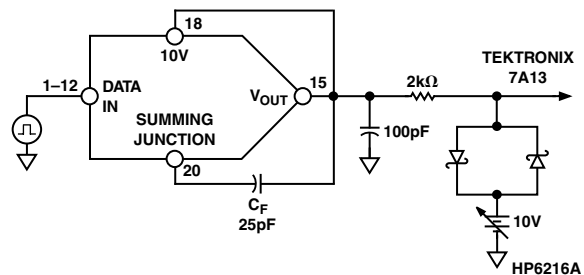

Figure 3a. Voltage Model Settling Time Circuit
- ⁵C_F = 0, see Figure 3a.
Three settling times are specified to 0.01% of full scale range (FSR); two for maximum full scale range changes of 20 V, 10 V and one for a 1 LSB change. The 1 LSB change is measured at the major carry (0 1 1 1 . . . 1 1 to 1 0 0 0 . . . 0 0), the point at which the worst case settling time occurs. The settling time characteristic depends on the compensation capacitor selected, the optimum value is 25 pF as shown in Figure 3a.
Gain and offset drift are minimized in the ADDAC80 because of the thermal tracking of the scaling resistors with other device components. Connections for various output voltage ranges are shown in Table III. Settling time is specified for a full-scale range change: 4 μ s for a 10 k Ω feedback resistor; 3 μ s for a 5 k Ω feedback resistor when using the compensation capacitor shown in Figure 3a.